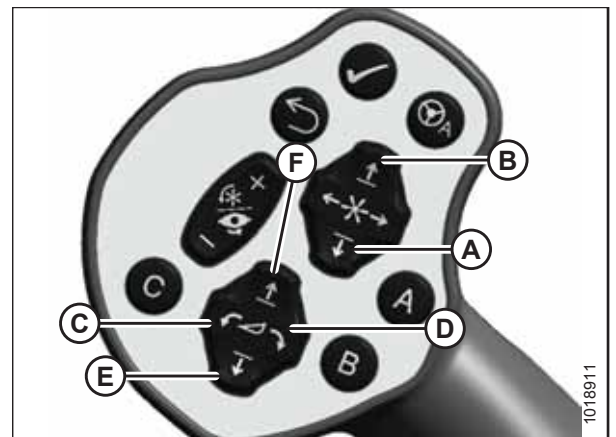

Figure 5.86: GSL
12. Lower center-link (A) onto the header with the REEL DOWN switch on GSL until it locks into position. When this happens, hook release (C) will be in the down position. Refer to Figure 5.86, page 163 for an illustration of the GSL controls.
13. Ensure that the center-link is locked onto the header by pressing the REEL UP switch on the GSL. Refer to Figure 5.86, page 163 for an illustration of the GSL controls.